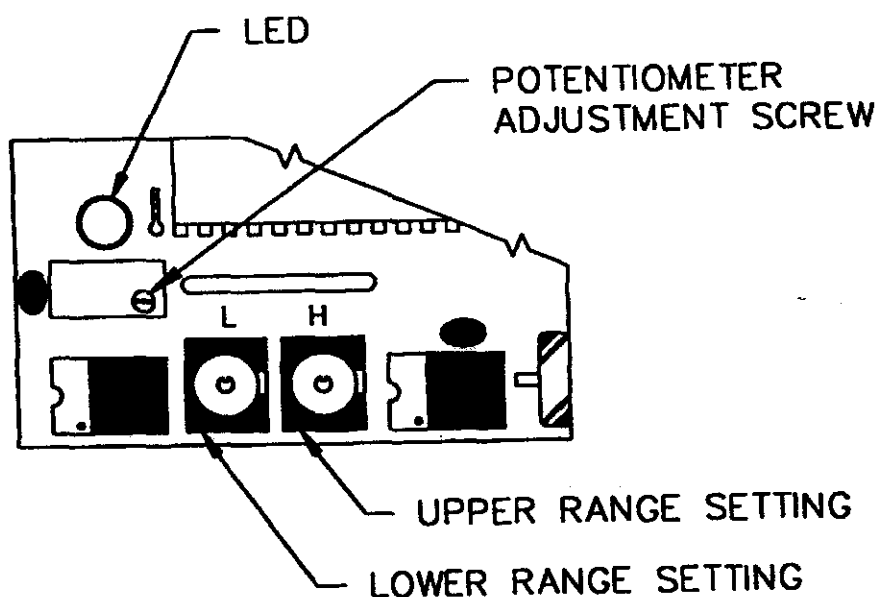

Figure 1
2. With power on, pull pendant trigger to full on position. Adjust potentiometer adjustment screw located next to the red light (see Figure 1) until light just turns off, then turn trim pot back until the light just comes on. The light should stay on during the full trigger movement. Clockwise rotation to the trim pot will turn light off. Counterclockwise rotation will turn the light on. This "tunes" the amplifier to the trigger potentiometer.
3. After warming the hydraulic system oil, determine which function should be used to set the low position switch (ROTATE uses the least amount of pressure). Activate that function with trigger released, and turn the lower range setting dial (See Figure 1, marked with "L" on circuit board) until the desired speed is reached. The "Zero" and the "F" on the dial are opposite ends of the switch. To adjust the low set point, **turn CLOCKWISE direction for INCREASED FLOW; turn COUNTERCLOCKWISE direction for DECREASED FLOW.** This adjusts the "Threshold Speed" for the trigger in the released position.
4. Operate the boom up function with trigger pulled back to the maximum position. Turn the high range setting dial (See Figure 1, marked with "H" on circuit board) until there is a noticeable decrease in speed, then back up one or two notches as desired.